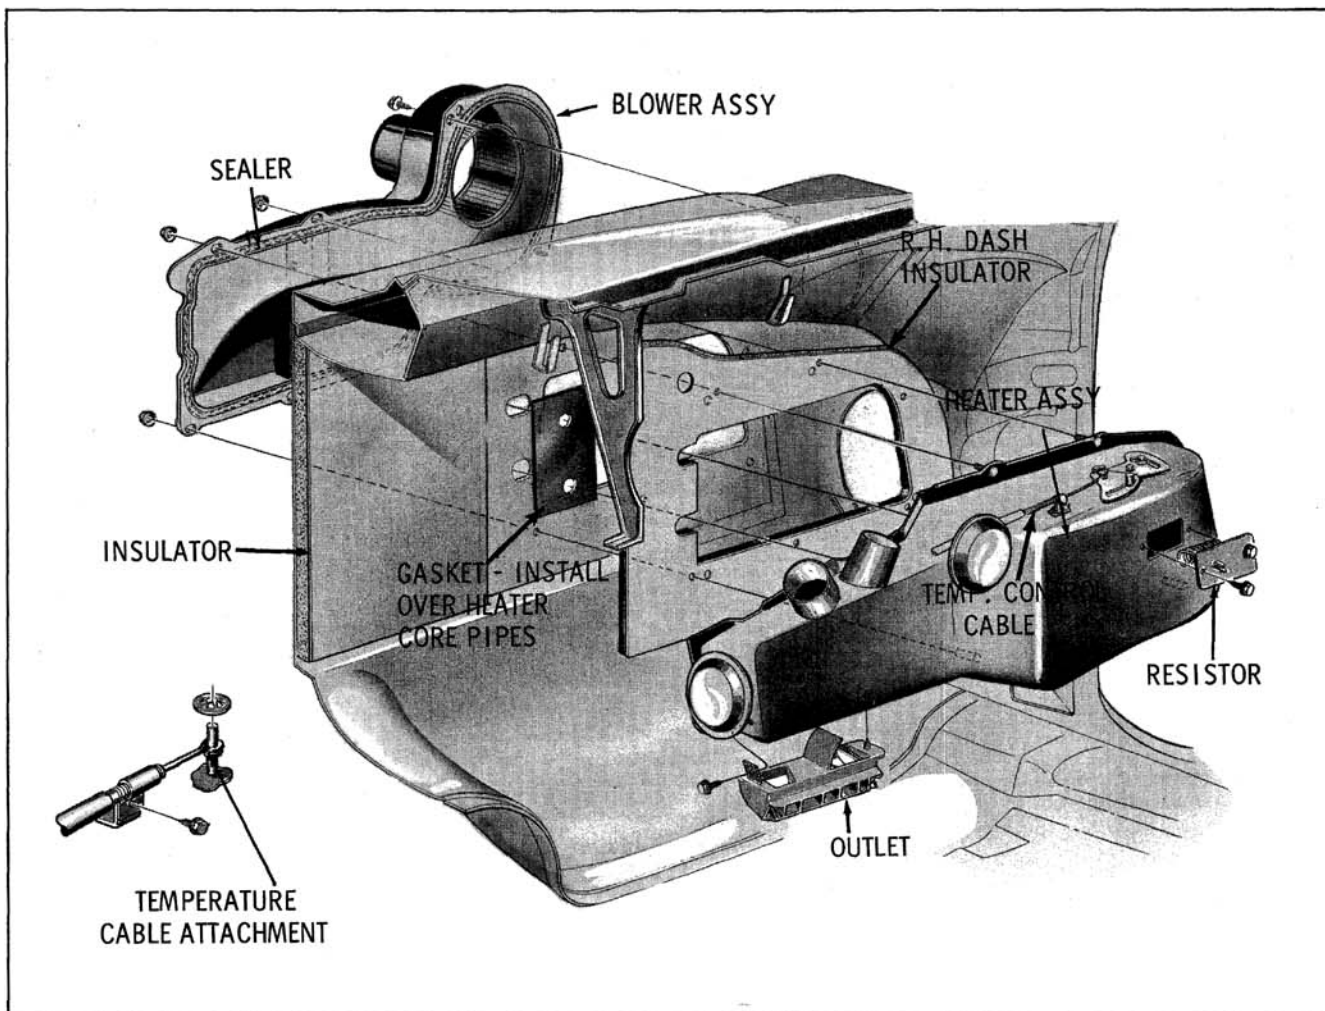

Fig. 14-9 Heater Case Attachment
**HEATER CASE AND CORE****REMOVE AND INSTALL (Fig. 14-9)**
### REMOVE AND INSTALL (Fig. 14-9)